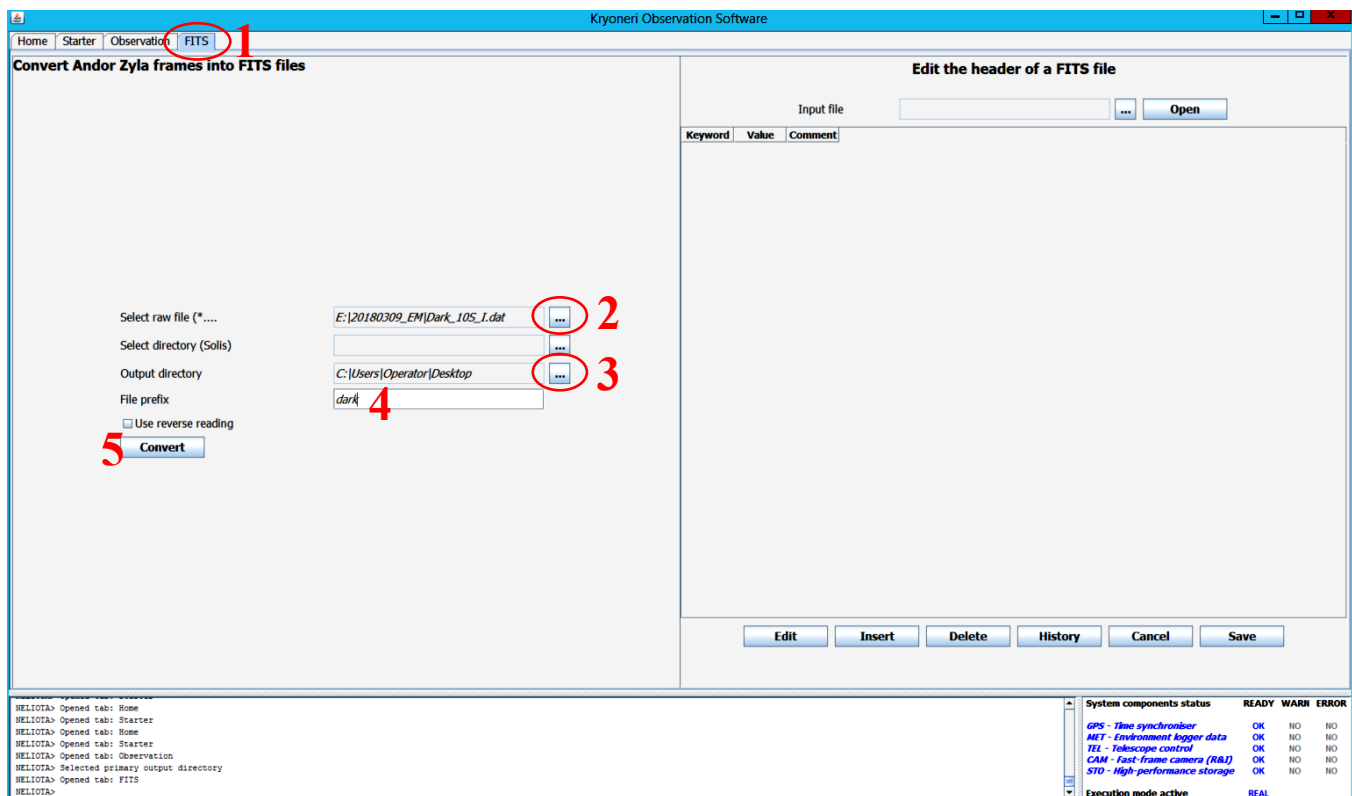

Fig. 8.9. The “FITS” menu of the Kryoneri Observation Software, that is used for manual conversion of dat files to FITS files.
2. Click on the "FITS" tab (Fig. 8.9 No 1).